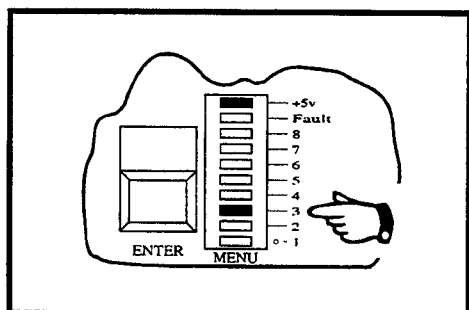
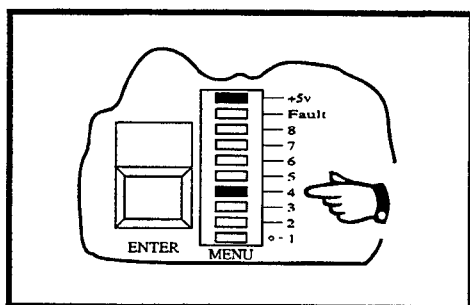

Figure 3-8
Figure 3-9
- (b) Press the blue **FUNCTION** key **THREE** times. The **Menu** display should cease scrolling and the segment labelled **3** should illuminate. This segment identifies the SP#1 menu function. See Figure 3-8. If you wish to programme SP#2, press the **FUNCTION** key **FOUR** times. The segment labelled **4** should illuminate. See Figure 3-9.
- (c) Press the green **ENTER** key **ONCE**. This selects either the SP#1 or SP#2 menu function. The analogue meter should indicate the present setting of the setpoint. Refer to Figures 3-8 and 3-9.